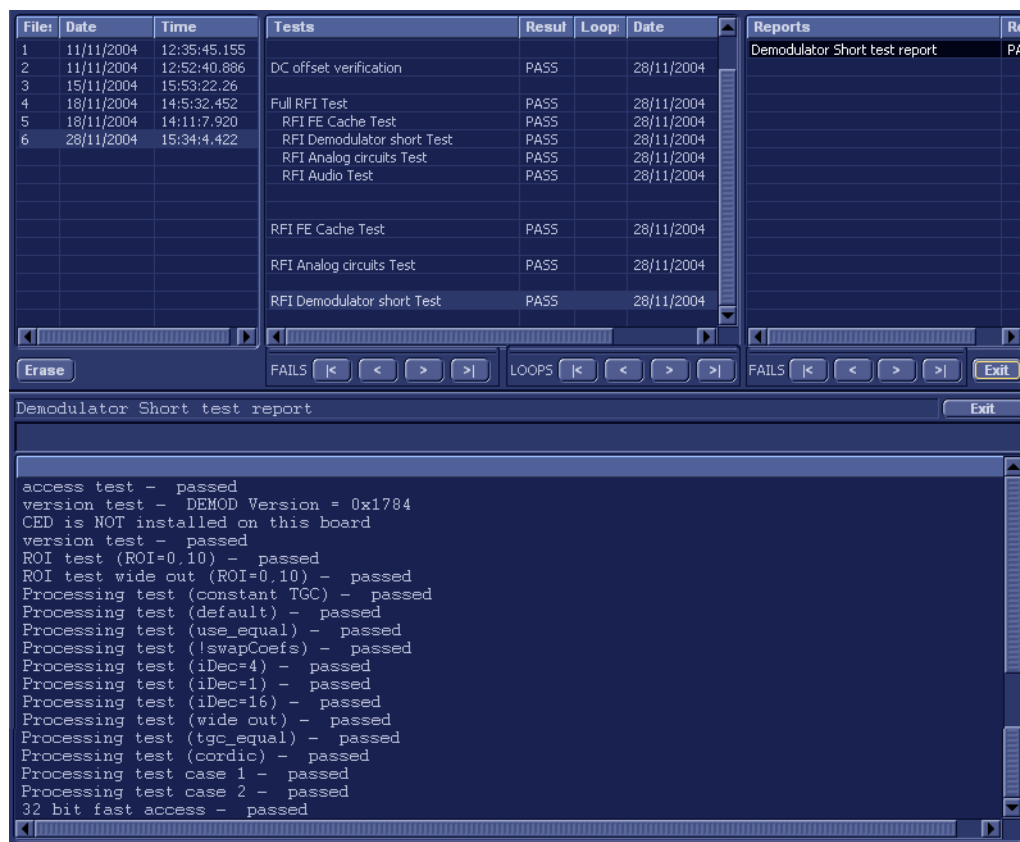

Figure 7-18 View Test Log - RFI Demodulator Short Test
- the View Test Log window opens automatically, listing all tests performed and showing details of which tests passed or failed, as shown in the example in Figure 7-18.
- Note:** For this test, there is one report (Demodulator Short Test report) which is listed in the *Reports* window on the right. By default, this report is displayed in the Reports window below (Figure 7-18). Use the Report window scroll bars and/or arrows to scroll through complete report if necessary.